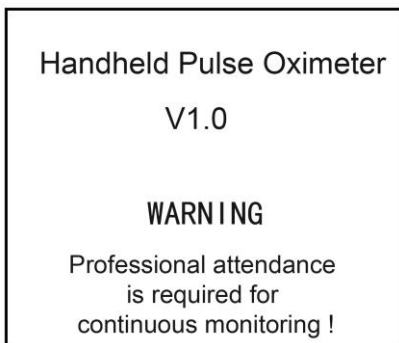

Figure 4.1
- Long pressing "⏻" Power/Left key for 1~2 seconds, then the oximeter will be powered on. The oximeter will do self-test and then the software version and warning message "Professional attendance is required for continuous monitoring!" will be shown on the screen, as shown in figure 4.1 (refer to your oximeter for actual version).